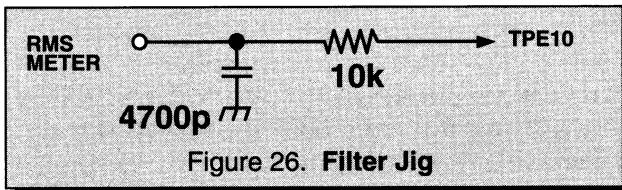

Figure 26. Filter Jig
1. Connect an RMS meter with filter jig as shown in Fig. 26.